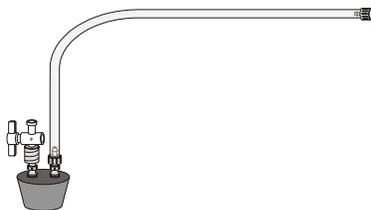

Figure 2
- b. Obtain a rubber-stopper assembly with a piece of heavy-wall plastic tubing connected to one of its two valves. Attach the connector at the free end of the plastic tubing to the open stem of the Gas Pressure Sensor with a clockwise turn. Leave its two-way valve on the rubber stopper open (lined up with the valve stem as shown in Figure 2) until Step 9.